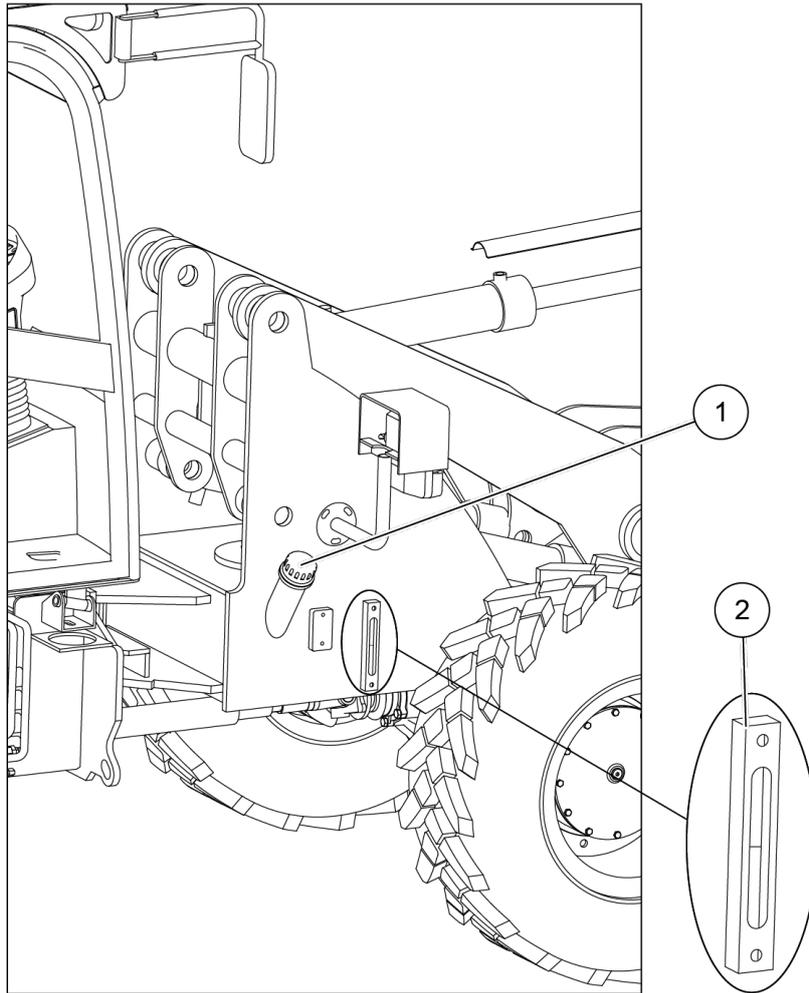

Figure 5-36 Fuel tank
Step 2: Carefully clean the area of the fuel tank cap (1) and unscrew the fuel tank cap (1) , as shown in Figure 5-36;